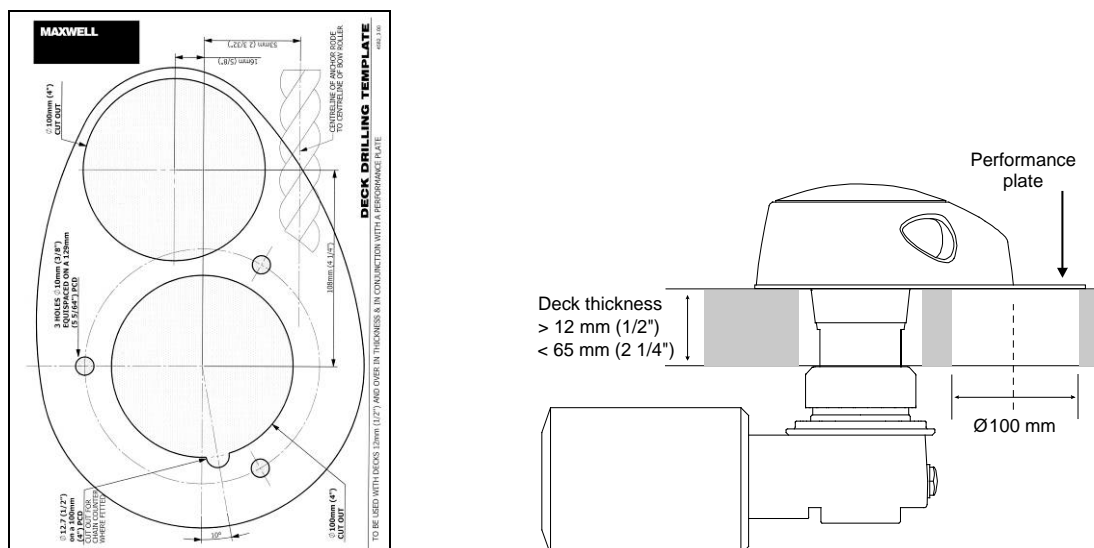

Figure 12 - Template for decks more than 12 mm ($\frac{1}{2}$ ") thick
If fitting the windlass to a deck 12 mm ($\frac{1}{2}$ ") or MORE in thickness, use the template shown in Figure 12 in conjunction with the performance plate supplied. The template is supplied at the back of this manual.
4. For decks thicker than 12 mm (½ ") use the performance plate as shown in Figure 12 on page 15.